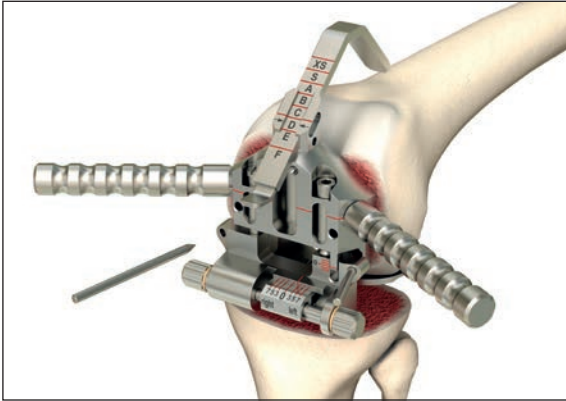

Fig. 19 Insertion of the Femur Size/Rotation Guide
- After adjustment of the rotation alignment, the Femur Size/Rotation Guide should be fixed in its lower section with at least one Pin (Fig. 19)